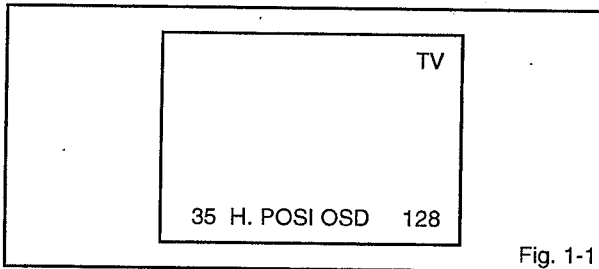

Fig. 1-1
1. Follow the steps as follows to discharge the Anode Cap. (Refer to Fig. 1-1.)
1. In the condition of NO indication on the screen. Press the VOL. DOWN button on the set and the Channel button (9) on the remote control for more than 2 seconds to appear the adjustment mode on the screen as shown in Fig. 1-1.
4. Activate the adjustment mode display of Fig. 1-1 and press the channel button (01) on the remote control to select "RF AGC".
3. Activate the adjustment mode display of Fig. 1-1 and press the channel button (00) on the remote control to select "CUT OFF".
4. Activate the adjustment mode display of Fig. 1-1 and press the channel button (28) on the remote control to select "M R CUT OFF".
3. Activate the adjustment mode display of **Fig. 1-1** and press the channel button **(08)** on the remote control to select "H POSI(50)".
7. Activate the adjustment mode display of **Fig. 1-1** and press the channel button **(39)** on the remote control to select "H POSI(60)".
3. Activate the adjustment mode display of **Fig. 1-1** and press the channel button **(11)** on the remote control to select "V SIZE(50)".
7. Activate the adjustment mode display of **Fig. 1-1** and press the channel button **(12)** on the remote control to select "V SIZE(60)".
4. Activate the adjustment mode display of **Fig. 1-1** and press the channel button **(17)** on the remote control to select "BRIGHT CENT".
2. Activate the adjustment mode display of **Fig. 1-1** and press the channel button **(22)** on the remote control to select "CONT CENT".
6. Activate the adjustment mode display of **Fig. 1-1** and press the channel button **(22)** on the remote control to select "CONT CENT".
4. Activate the adjustment mode display of **Fig. 1-1** and press the channel button **(25)** on the remote control to select "COLOR CENT".